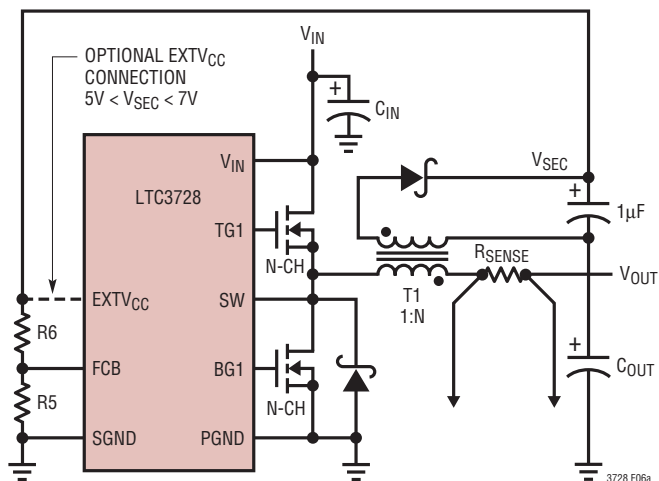
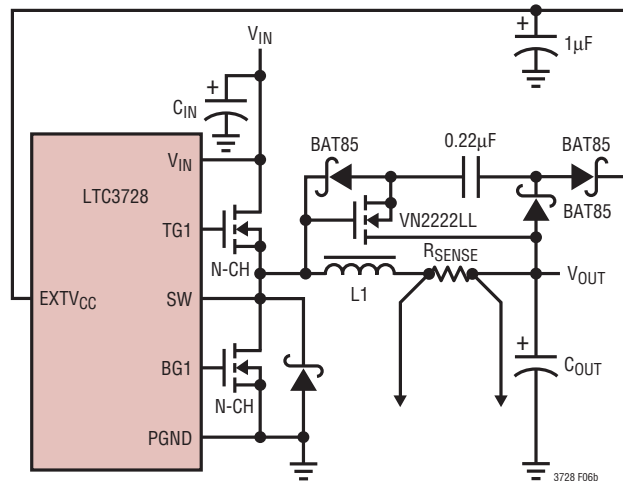

Figure 6a. Secondary Output Loop and $EXTV_{CC}$ Connection
Figure 6b. Capacitive Charge Pump for $EXTV_{CC}$
4. $EXTV_{CC}$ Connected to an Output-Derived Boost Network. For 3.3V and other low voltage regulators, efficiency gains can still be realized by connecting $EXTV_{CC}$ to an output-derived voltage that has been boosted to greater than 4.7V. This can be done with either the inductive boost winding as shown in Figure 6a or the capacitive charge pump shown in Figure 6b. The charge pump has the advantage of simple magnetics.
The secondary output voltage, V_{SEC} , is normally set (as shown in Figure 6a) by the turns ratio N of the transformer: